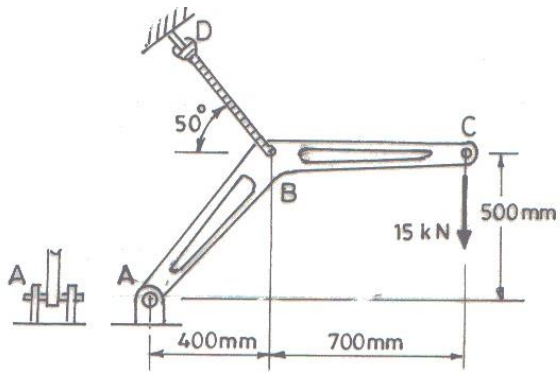

Fig. 3
3. Determine the tensile stress in cable BD and shearing stress in the pin at A (Fig. 3). The diameter of cable and pin are 20mm and 10mm, respectively. Draw the free body diagram of ABC.